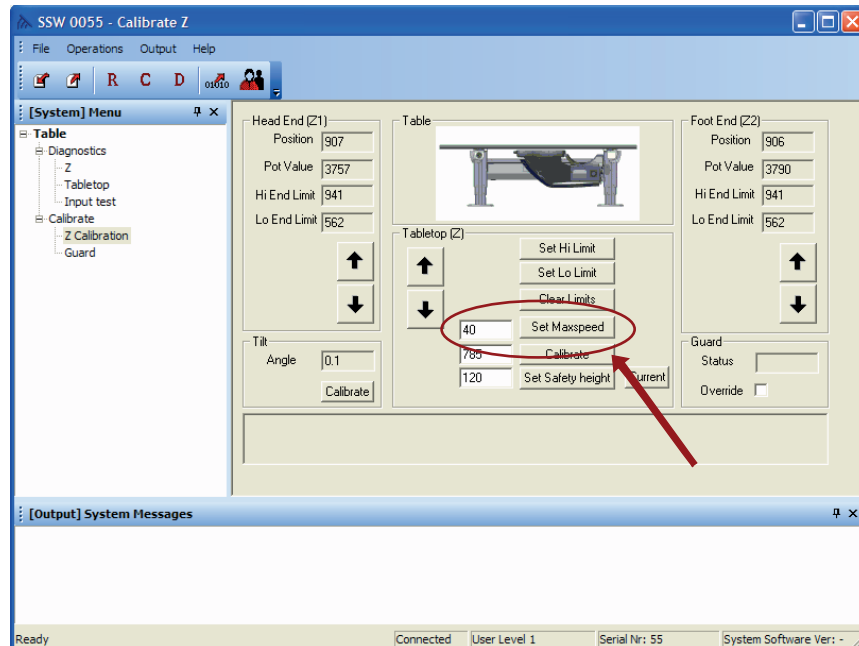

Fig. 4-156 Calibration Table Max Speed
2. Enter the new speed value (mm/sec) in the *Edit box* beside the *Set Max Speed* button, see Fig. 4-156 *Calibration Table Max Speed*. Observe that 40 mm/sec is the maximum speed.